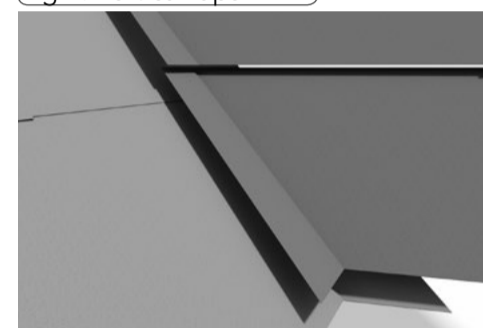

fig 8: Valley laps
9. Where valleys occur, the Danelaw LR150 should be laid not less than 300mm beyond the centre line of the valley on each side (fig. 8). Where a continuous length of underlay is laid up the length of the valley, it should be a minimum of 600mm wide and the underlay from either side of the valley should be mitre cut to the appropriate line to suit the valley trough installation requirements.